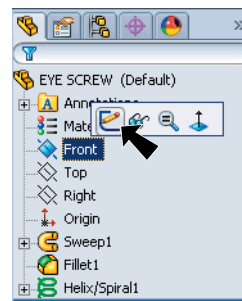

Fig. 20
Step 1. Click **Front**  (plane) in the Feature Manager and click **Sketch**  from the Content toolbar, Fig. 20.